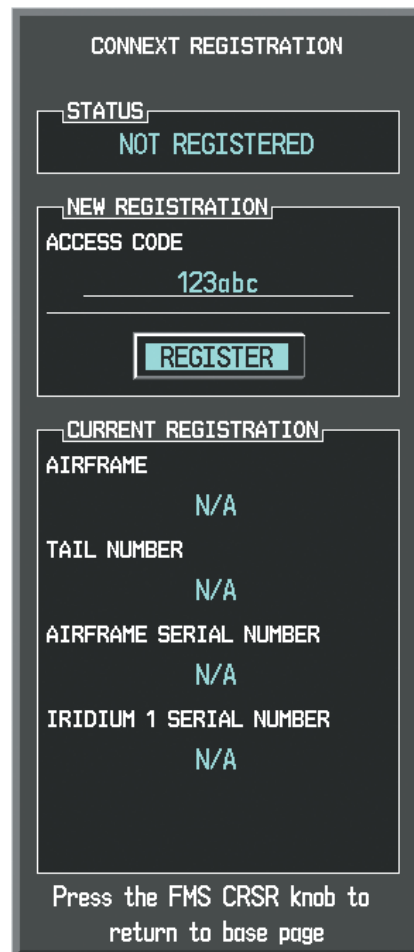

Figure 6-56 Enter Access Code
- 5) Press the **ENT** Key. The Connex Registration Window appears as shown in Figure 6-56.
- 7) Press the **ENT** Key. 'REGISTER' is highlighted as in Figure 6-56.